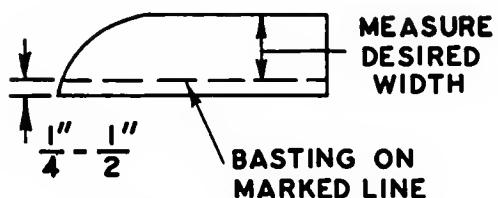

Fig. 131F. Basting the welt.
- D. Measure again and run a basting along the stitching line at the bottom of the welt. Hold the underside of the welt tighter (Fig. 131F).